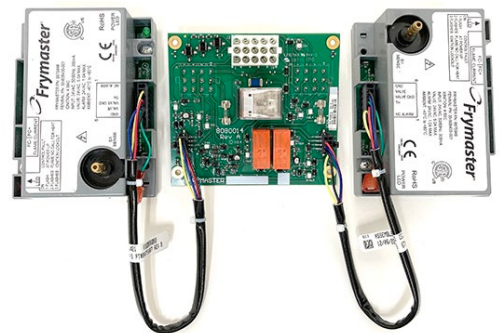
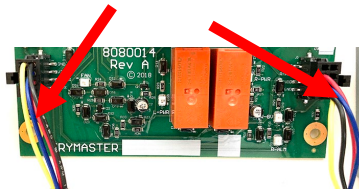

Figure 3 (Dual Vat)
Figure 4 (Dual Vat)
1. When connecting Fenwal Modules (8075949) to a **NEW** GIVEG board, attach the 8075987 harnesses to **EACH** side of the GIVEG board (see Figure 3). **NOTE:** Both harnesses have a solid blue wire. (see Figure 4).
1. When connecting Fenwal Control Modules to an **OLD** GIVEG board, cut off the **SMALL** connectors of both 8075986 harness (see Figure 4).